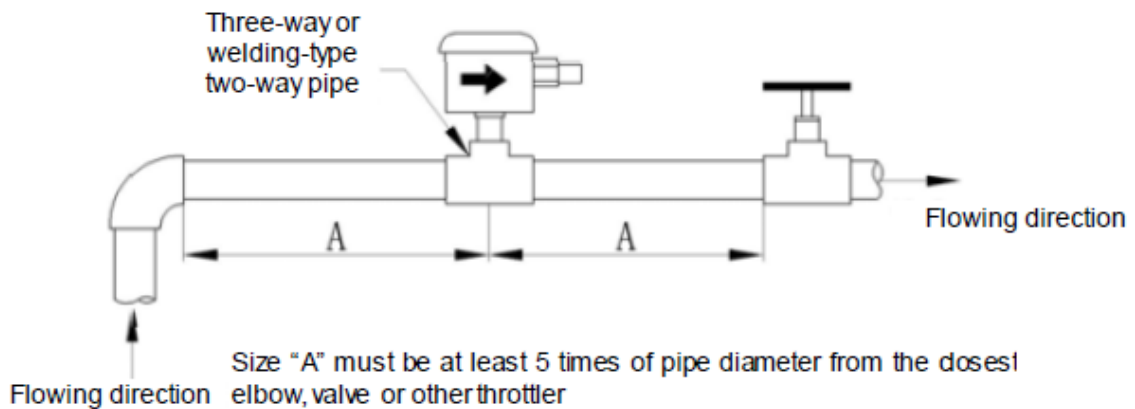

Fig.5
- 4.1 The flow switches must be installed on the straight pipeline with at least straight stroke of 5 times of the pipe diameter on both sides (as shown in Fig.5). The connecting terminals shall be installed on the position available for connection during the installation of switches.